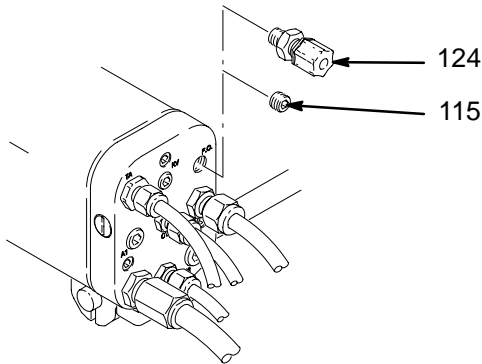

Fig. 8
1. Remove the 1/8 npt plug (115) from the manifold's fiber optic port, and install the black fiber optic fitting (124). See Fig. 8.